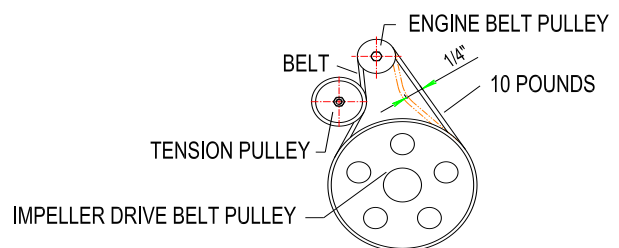

FIG 18
6.12.1 Press down on the auger/impeller drive lever and check the tension of the drive belt. Tension should be set at 1/4 inch belt deflection to 10 pounds of pull. (FIG 18)